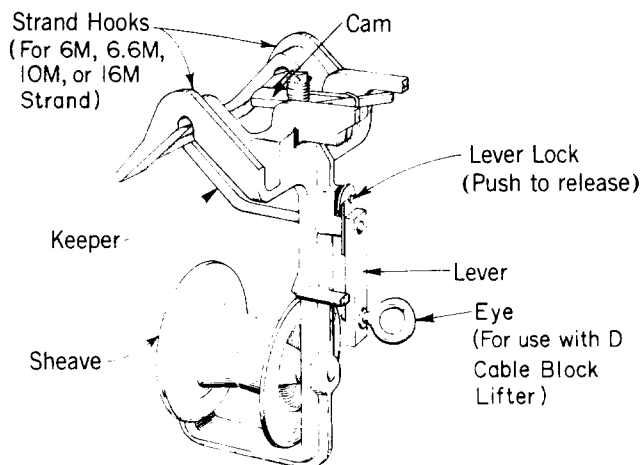

Fig. 4—J Cable Block (MD)
3.06 The J cable block (Fig. 4) is superseded by the K cable block. The single cam design allows the block to move along the strand in only one direction.